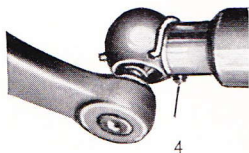

Fig. 25-1/2
3. Detach the selector rod and the shift rod (7) and (8) (see Fig. 25-1/1). To do this, remove the spring clips (4) from the ball-cup connectors and press the rods off the ball-studs (Fig. 25-1/2).